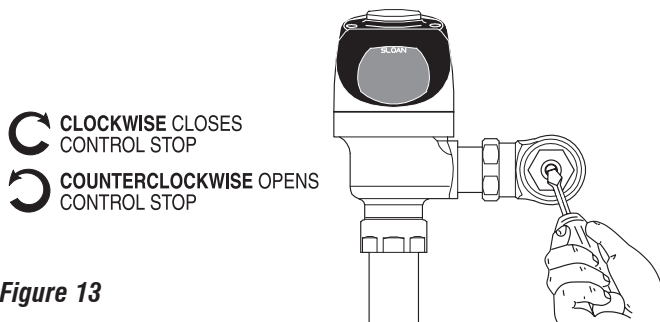

Figure 13
Step 10 — Adjust Control Stop to Suit Fixture (Figure 13)